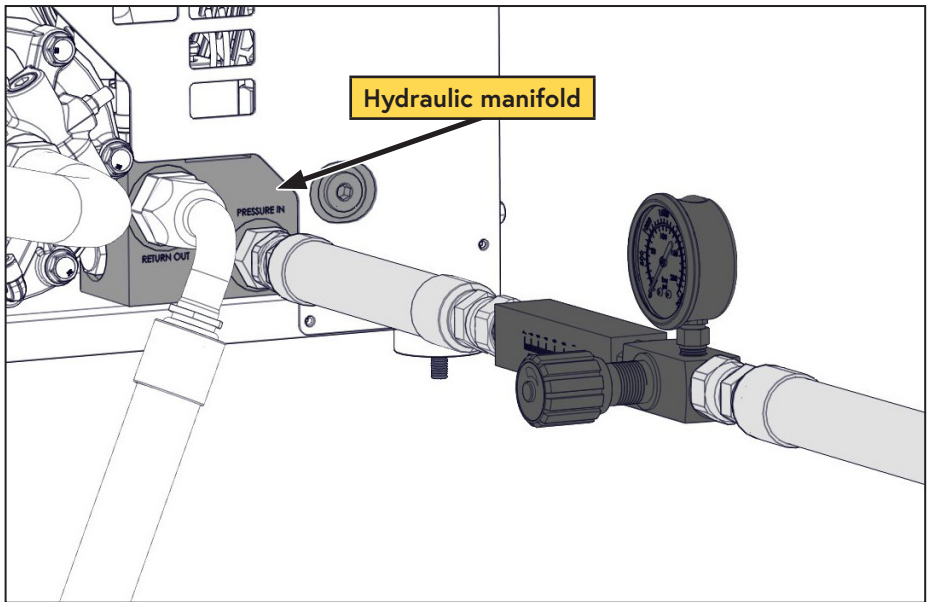

Figure 39 — Install hydraulic test tool
- ☐ Connect the hydraulic test tool in-line into the "PRESSURE IN" side of the hydraulic manifold (Figure 39).